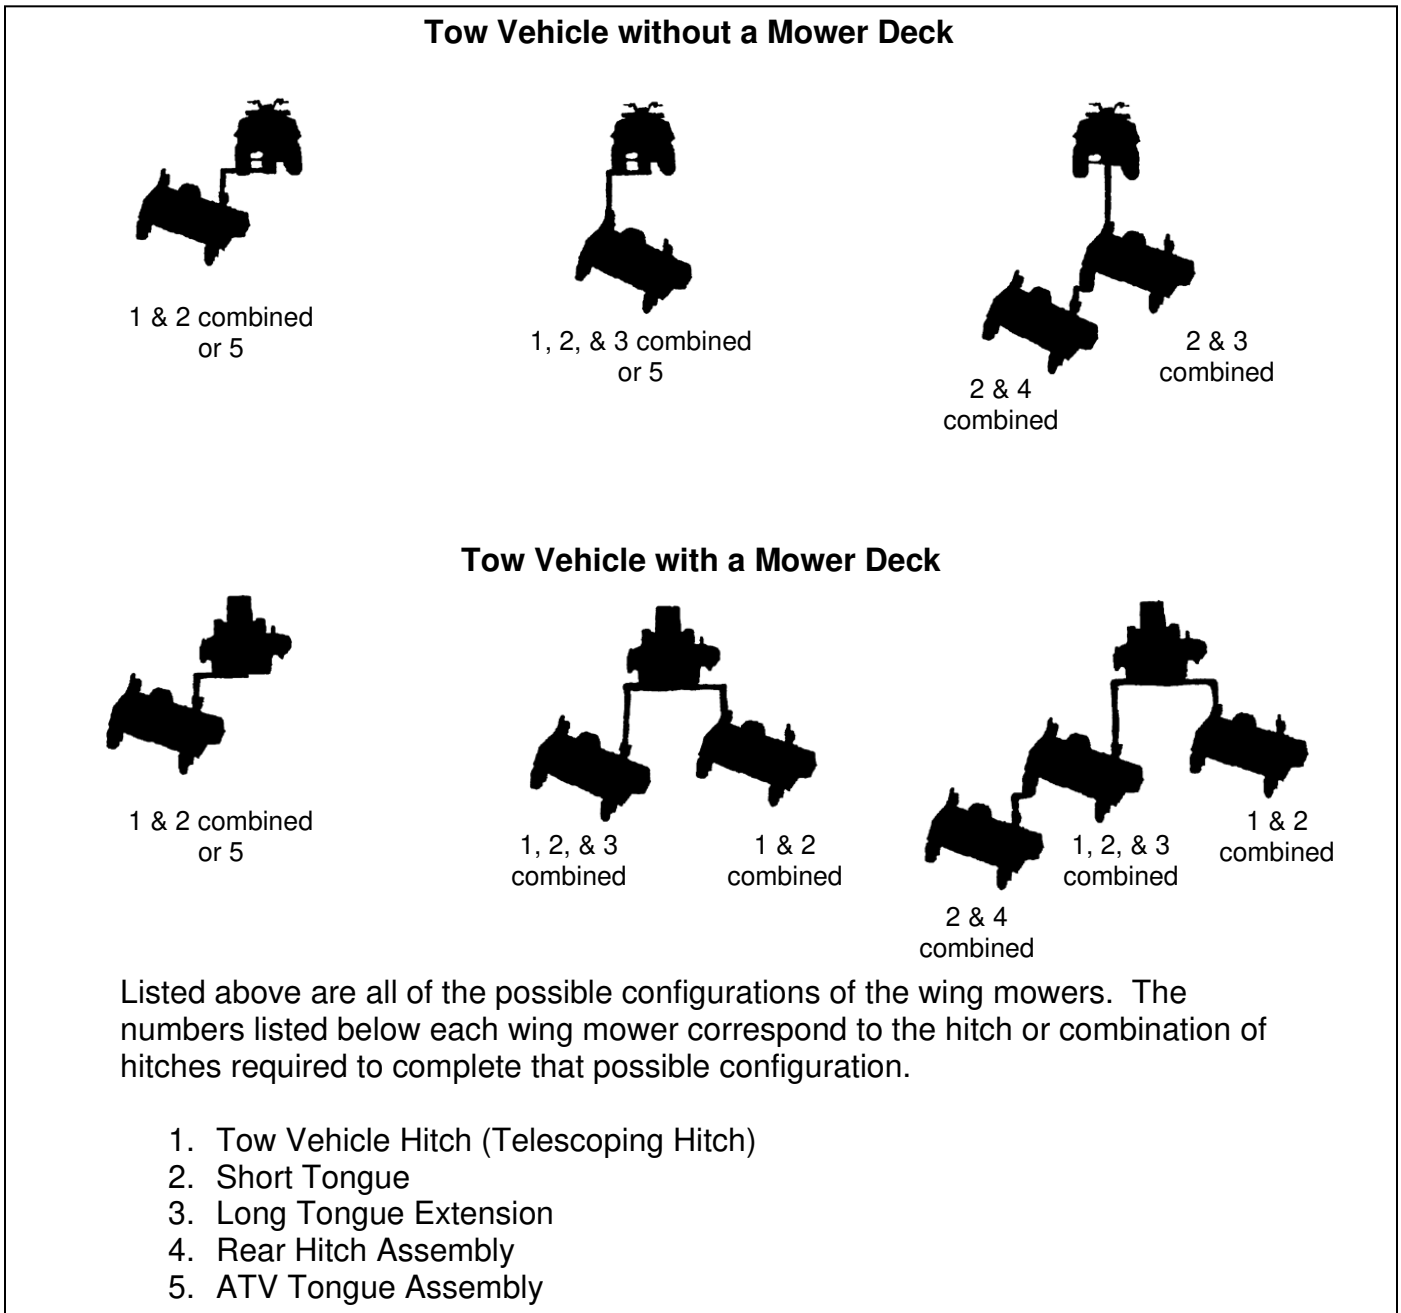

Figure 5: Wing Mower Towing Suggestions and Required Hitches
**B. HITCH CONFIGURATIONS (Refer to Figure 5)**
### C. ATV TONGUE CONFIGURATIONS (Refer to Figure 5)